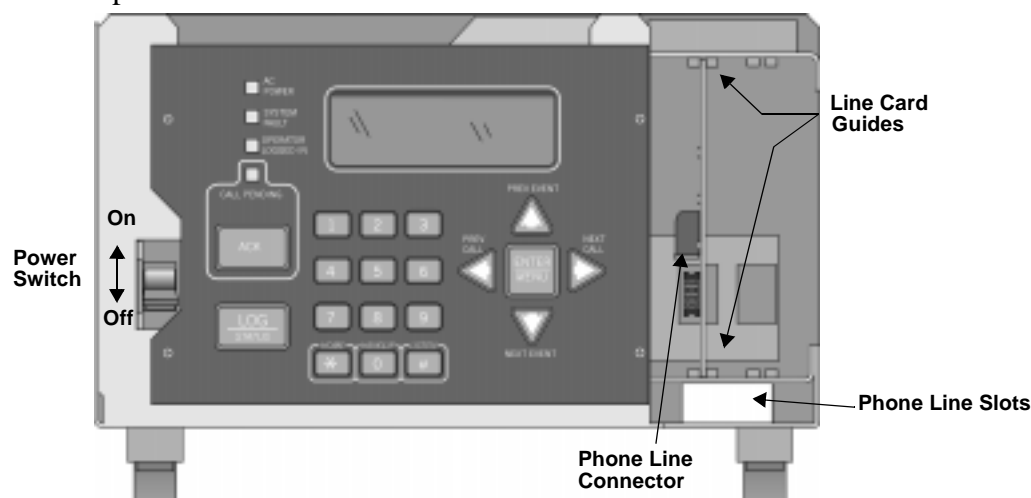
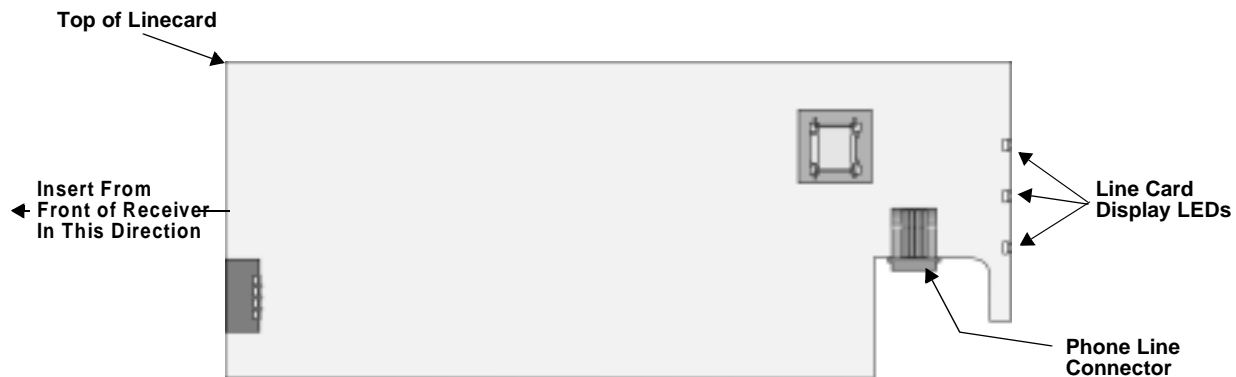

Figure 3-5 Line Card Locations
Figure 3-6 Line Card Position and Components
2. Turn off the 9500's power switch (see Figure 3-5 for power switch location).
3. When the cover is removed, you will see that there are 2 slots for line cards. The receiver recognizes each slot by number 1 and 2 (slot one is closest to the keypad and display). It is not necessary to put line cards in numbered order because the receiver continually polls each slot to see if existing line cards are functioning and if it is still in its slot. The receiver also looks to see if a new line card has been added. Figure 3-5 shows where each line card should be placed.
4. Position the line card as shown in Figure 3-6.
5. Carefully slide the card into its guides (both top and bottom) until it fits into its connector at the back of the receiver. Gently push the card as far into the connector as you can. The card is now in place. See Figure 3-5.
4. Unplug the telephone line. (See Figure 3-5 and Figure 3-6.)
2. From the back side of the receiver insert the telephone line through the corresponding slot for the desired line card. (See Figure 3-5 and Figure 3-6 for phone line slot locations.)
4. Plug the RJ-11 phone connector into the connector on the 9810 line card. (See Figure 3-5 and Figure 3-6.)